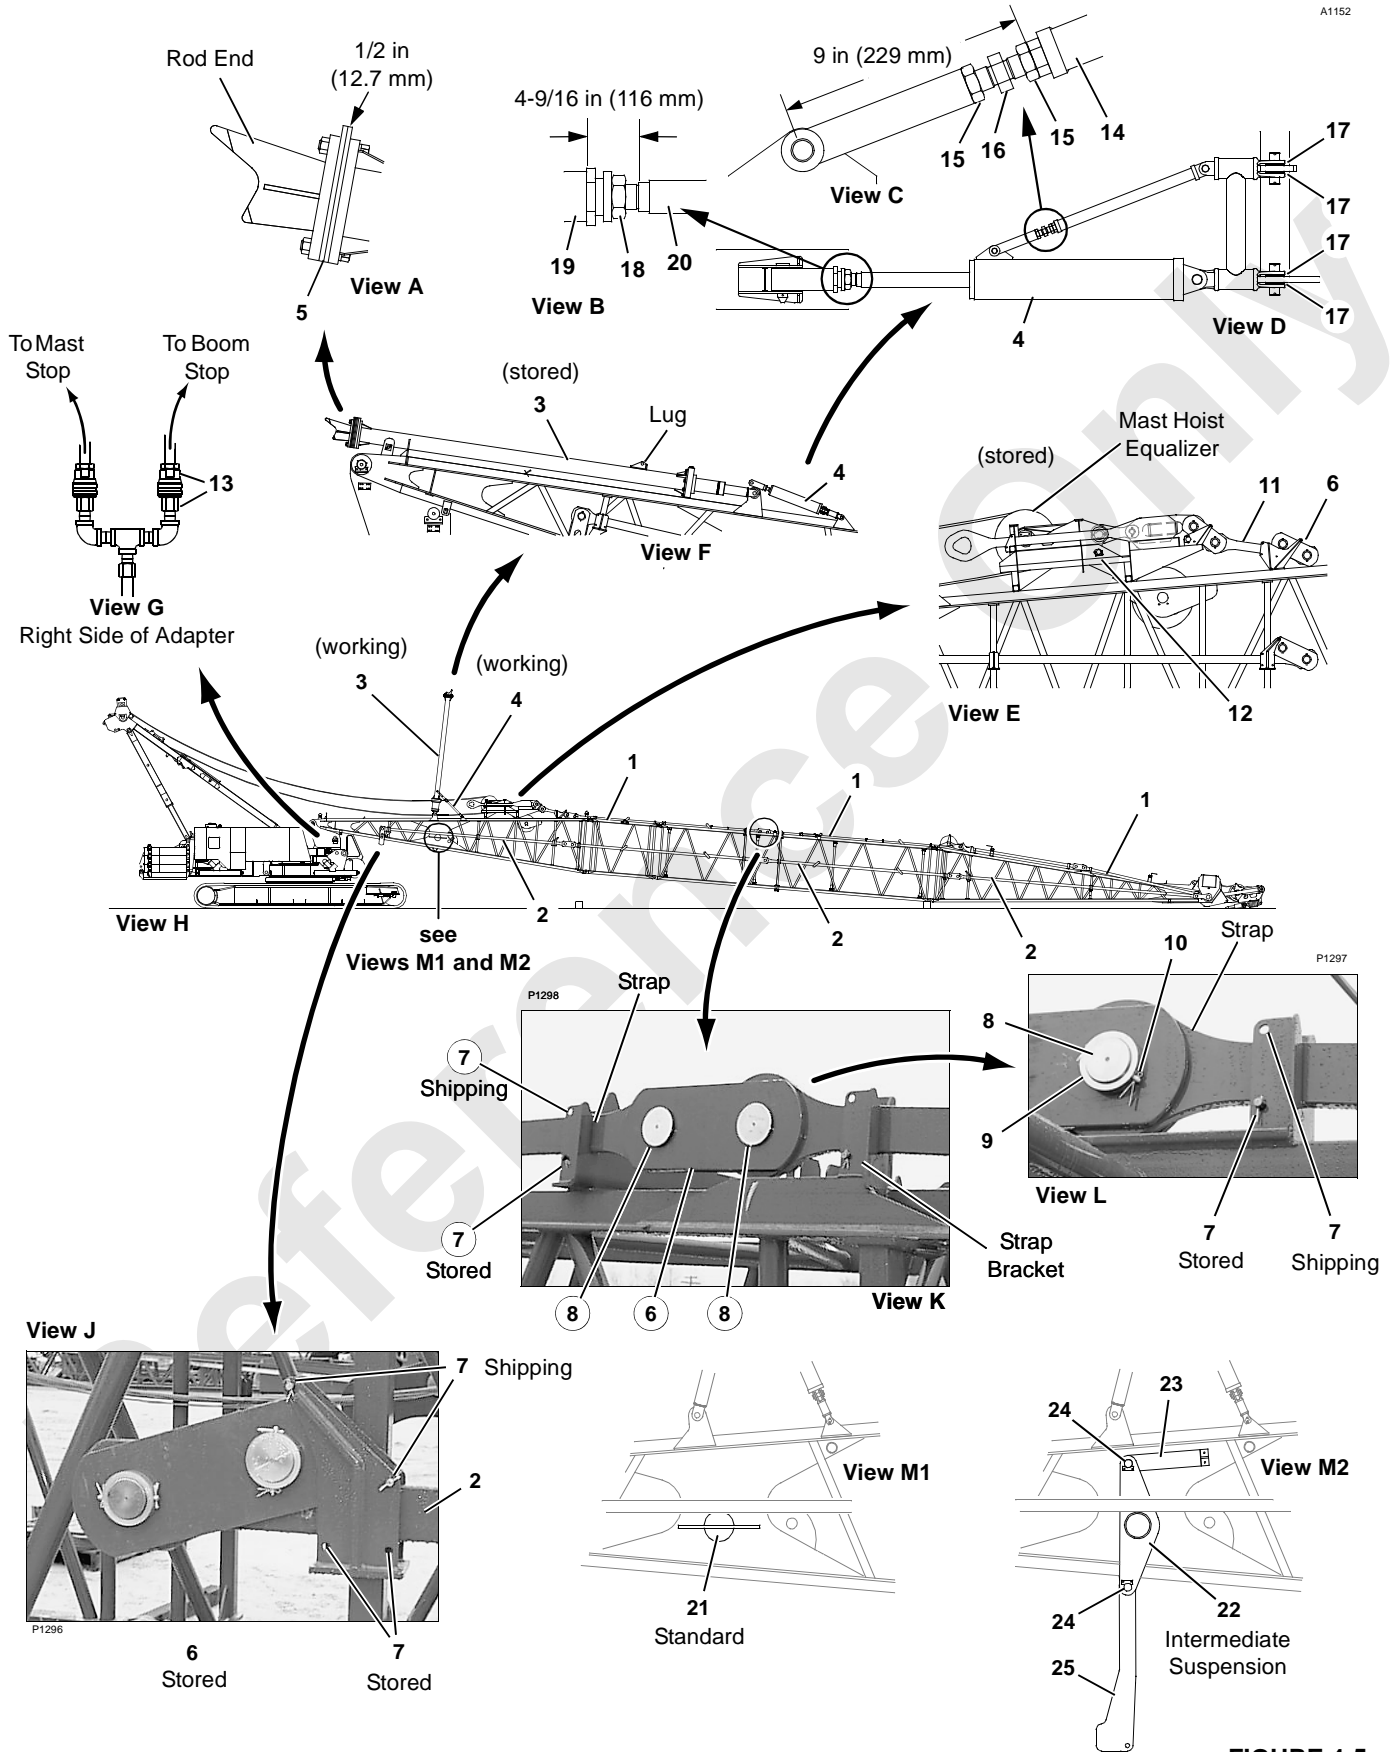

FIGURE 4-5
See Figure 4-5 for following procedure.
**Component Identification for Figure 4-5**